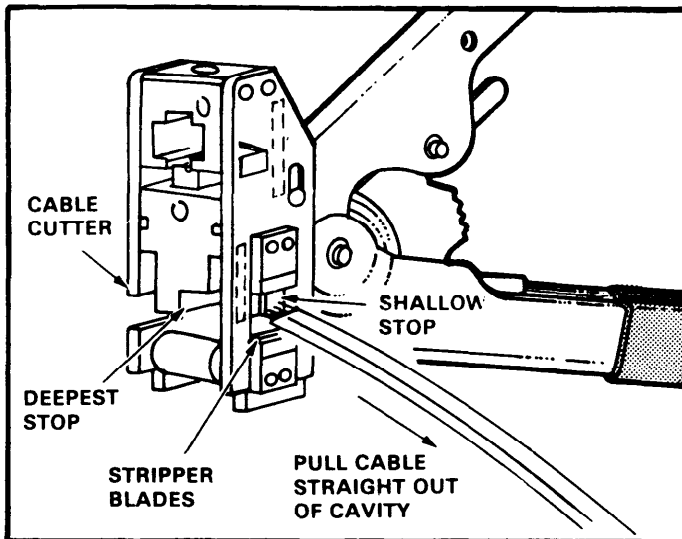

Fig. 3
2. Strip cable jacket from conductors — WITHOUT REMOVING CONDUCTOR INSULATION. Insert cable into stripping cavity according to cable size noted below and as shown in Figure 3.